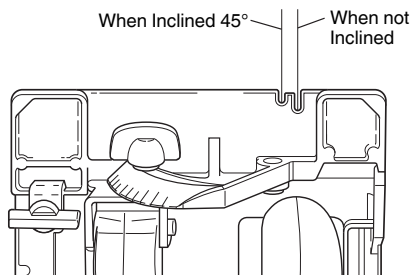

Fig. 6
1. Place the saw body (base) on the work piece, and as in Fig. 6 align the intended line of cut with the saw blade, using the notch at the front of the base. This relationship of base to work pieces should remain unchanged regardless of the inclination of the base.